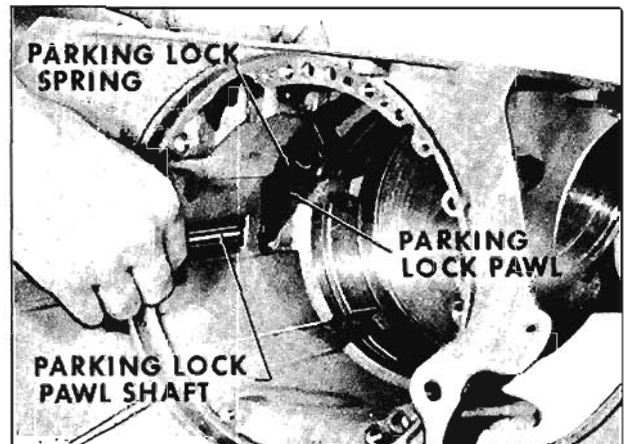

Fig. 6-302 Removing Parking Pawl
6. Disconnect parking lock pawl spring, then slide parking lock pawl shaft out of parking lock pawl. Remove parking lock pawl and spring. (Fig. 6-302)